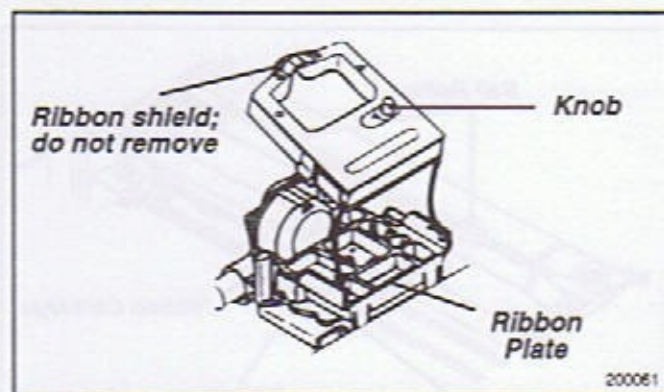

Figure 6-8
1. With the knob facing up, tilt the ribbon cartridge onto the printhead plate so it slides into the area of the plate is closest to the front of the printer (see Figure 6-8).